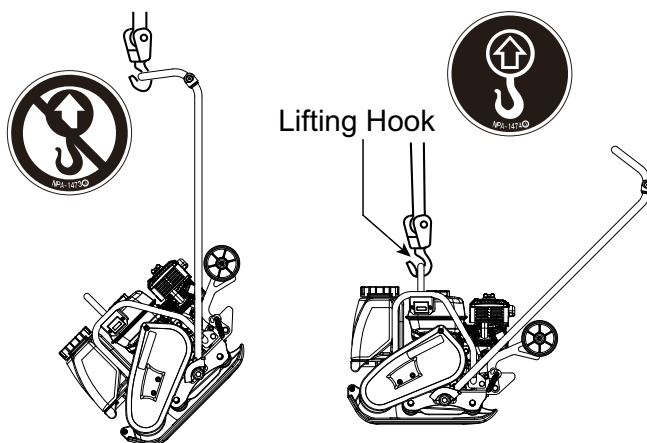

Figure 31. Lifting the Plate Compactor
11. When lifting, always use the lifting hook. Never lift by using the handle as the lifting hook (Figure 31).